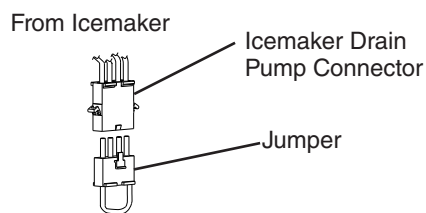

**Fig. 5**
- 5) Carefully place the drain pump into the open space provided at the rear of the icemaker. The drain pump will overhang the base slightly. See Figs. 5 and 6. If necessary, carefully bend or move the icemaker's copper tubing so that it does not make contact with the drain pump, hoses, or other parts of the icemaker. **NOTICE! Drain pump MUST be level.**
- 6) Connect the drain hose/drain elbow to the drain pump as illustrated in Figs. 5 and 6. Secure the drain hose/drain elbow with the remaining large clamp provided in this kit. **NOTICE! Do not over-tighten the clamp.**